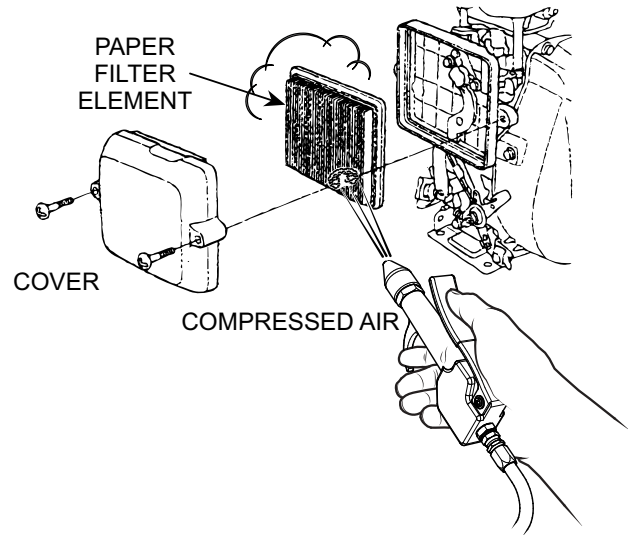

Figure 22. Engine Air Cleaner
- Tap the paper filter element (Figure 22) several times on a hard surface to remove dirt, or blow compressed air [not exceeding 30 psi (207 kPa, 2.1 kgf/cm²)] through the filter element. **NEVER** brush off dirt. Brushing will force dirt into the fibers. Replace the paper filter element if it is excessively dirty.